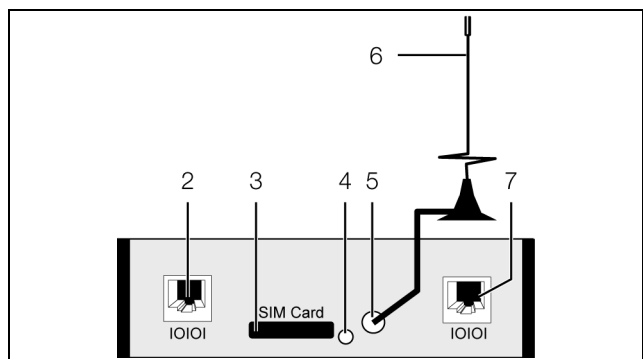

Fig. 9: Rear of the LTE unit
- 2 Connection of the CMC III Processing Unit RJ 12/RS 232, 24 V $\overline{\text{---}}$, 500 mA (alternative to item 7)
- 7 Connection of the CMC III Processing Unit RJ 12/RS 232, 24 V $\overline{\text{---}}$, 500 mA (alternative to item 2)
- Press the button to eject the SIM card (fig. 9, item 4). The SIM card holder will be ejected from the chassis (fig. 9, item 3).
- Screw the aerial into the relevant connection at the rear of the LTE unit (fig. 9, item 5).
- Connect the LTE unit to the CMC III Processing Unit using an RJ 12 connection cable (fig. 9, item 2 or item 7).